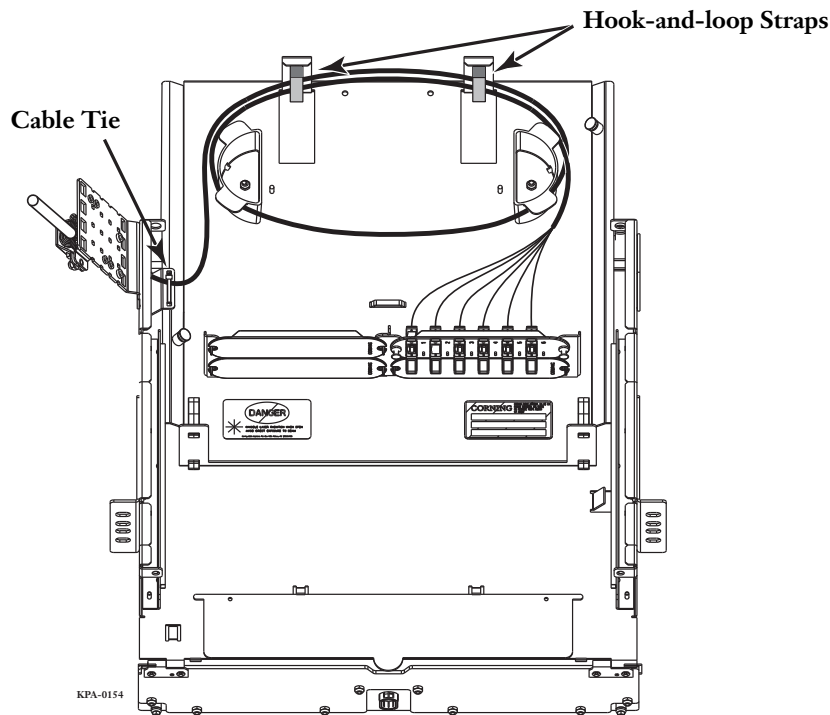

Figure 9 — Routing Preconnectorized Fibers
Step 4: Route cable slack around radius control guides (Figure 9).